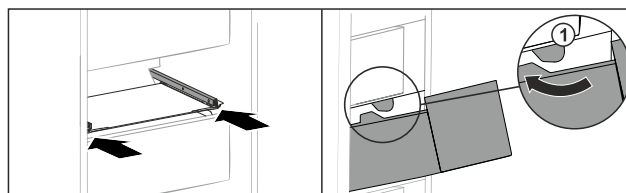

Fig. 166
- ▶ Guide drawer around the stoppers Fig. 166 (1).